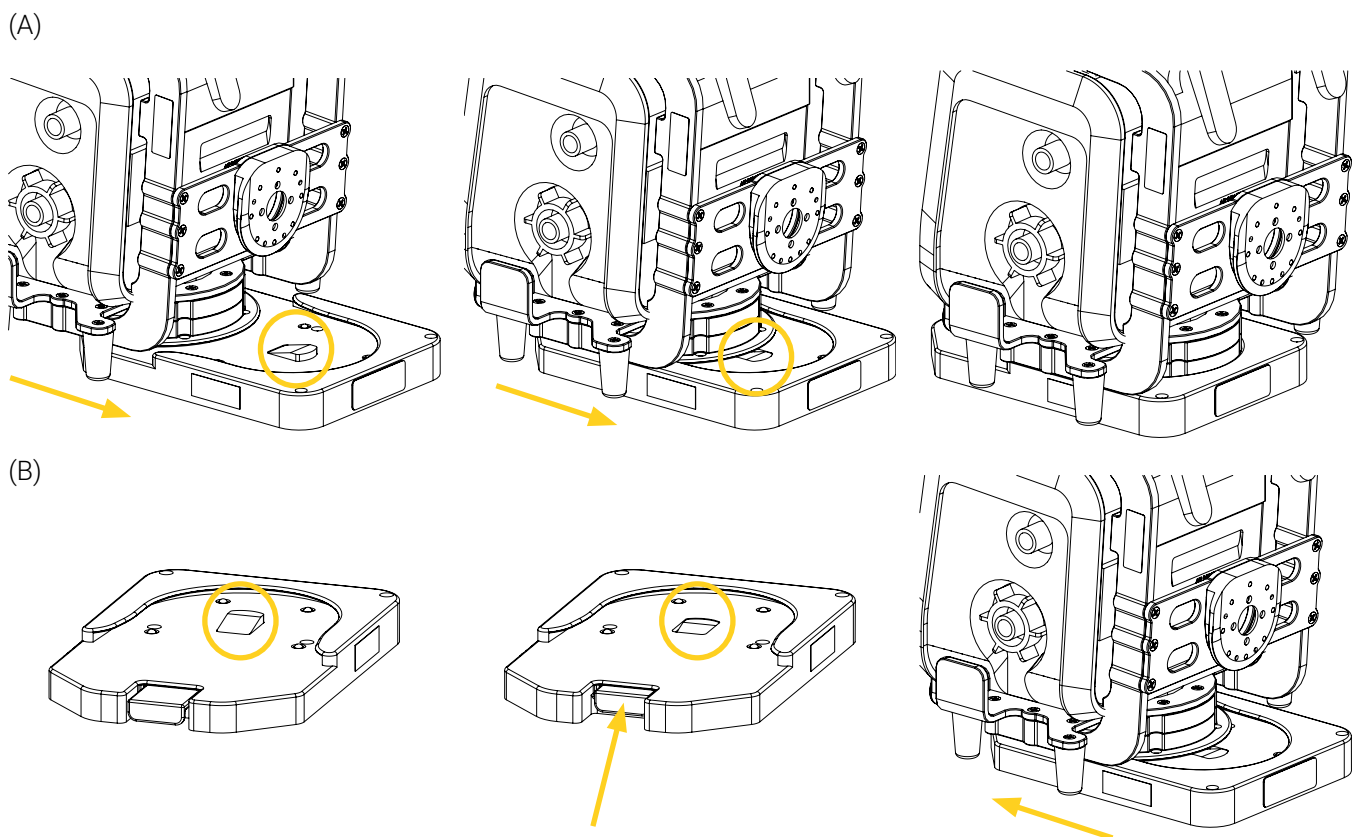

Figure 5: Locking/unlocking the Extended Surface Base
- **To lock** the Extended Surface Base, align and insert the standard bottom disc of the mounting bracket in the Extended Surface Base until you hear the click sound (Figure 5 A).
- **To unlock** the Extended Surface Base, press and hold the quick release button located at the front of the base, then pull on the mounting bracket until the standard bottom disc is out of the base (Figure 5 B). Release the quick release button.